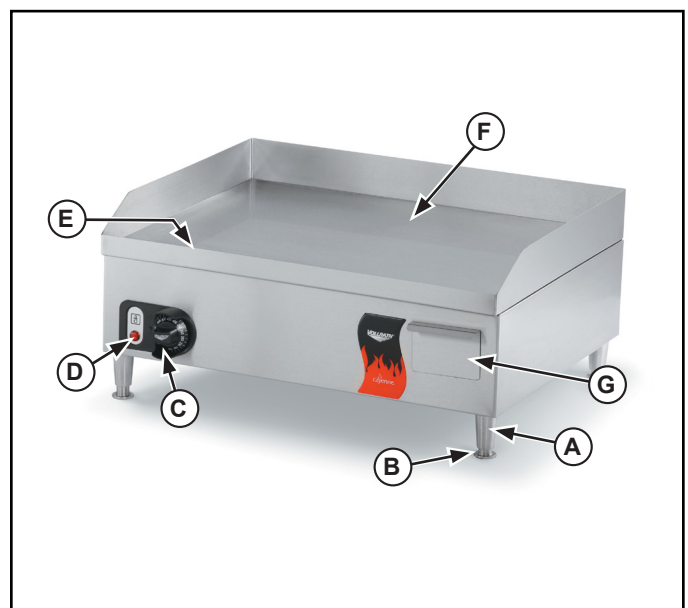

Figure 1. Features and Controls.
5. Install the four (4) legs and feet onto the equipment. See Figure 1.
1. Hold the leg (A) and rotate the feet so the equipment is level. See Figure 1.
5. Empty the drip tray (G) periodically to ensure it does not overflow. See Figure 1.
3. Wipe grease or oil to the drip trough (E) and into the drip tray (G). See Figure 1.
6. Empty and clean drip tray (G). Place the drip tray into the equipment.
7. Apply a light coat of vegetable to prevent rust on the griddle plate (F).